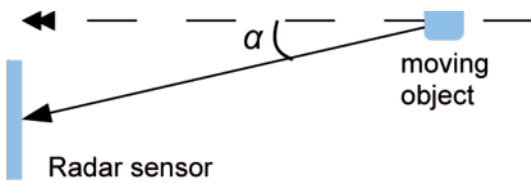

Fig. 2 – Definition of angle α
- α = Angle between beam and object moving direction (see Fig. 2)